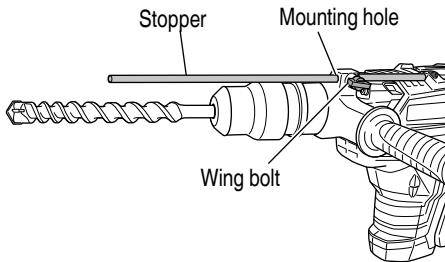

Fig. 19
- Switch the selector lever to "hammering" according to the procedures mentioned in the above item (1) and secure the position of the tool.
5. Install the stopper (Fig. 19)